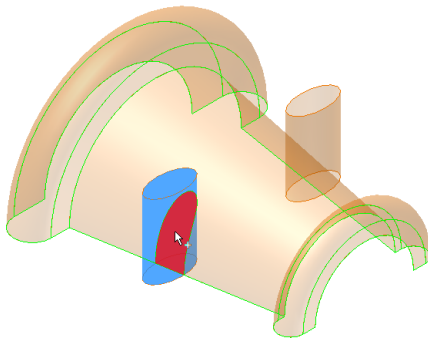

Figure 18-56 Trimming the base surface
- d. Split surfaces using the **Face Split** option, refer to Figure 18-56.
- Select the portion common between the base surface and the extruded surface as the portion to be trimmed, as shown in Figure 18-56. Choose **OK** from the dialog box.